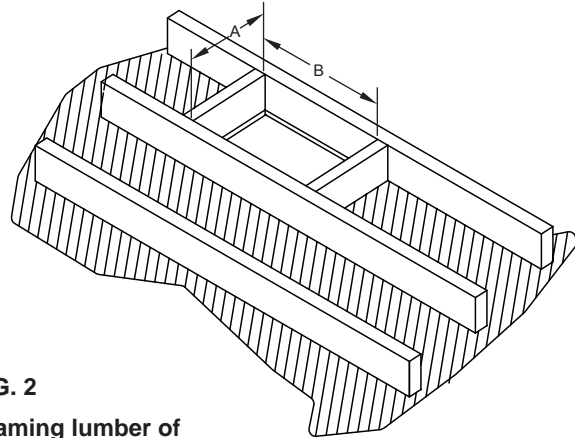

FIG. 2
2. Using framing lumber equal to ceiling joist size, frame ceiling opening as shown in FIG. 2 and TABLE 1.
6. Proceed to the next ceiling. **If Metal-Fab Elbows are to be used because the chimney is to be offset, refer to "Installation of Elbows" section.** Directly above the Center of the flue in the ceiling support, mark the ceiling. A plumb bob is normally used to find the center. Cut an opening in the ceiling using FIG. 2 and Table 1.